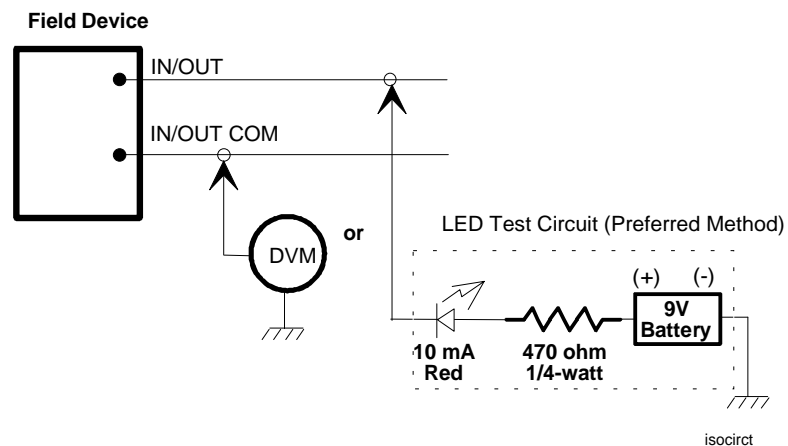

Figure 35: Testing for an Isolated Circuit
- **Before you terminate the field wires to the UNT**, measure the resistance of each wire to earth ground using an LED test circuit (preferred) or a DVM. For the LED test circuit, assemble the test circuit illustrated in Figure 35. Then, connect the circuit from each input to earth ground and then from each output to ground. For the DVM test, connect the DVM from each input to earth ground and then from each output to ground (see Figure 35).